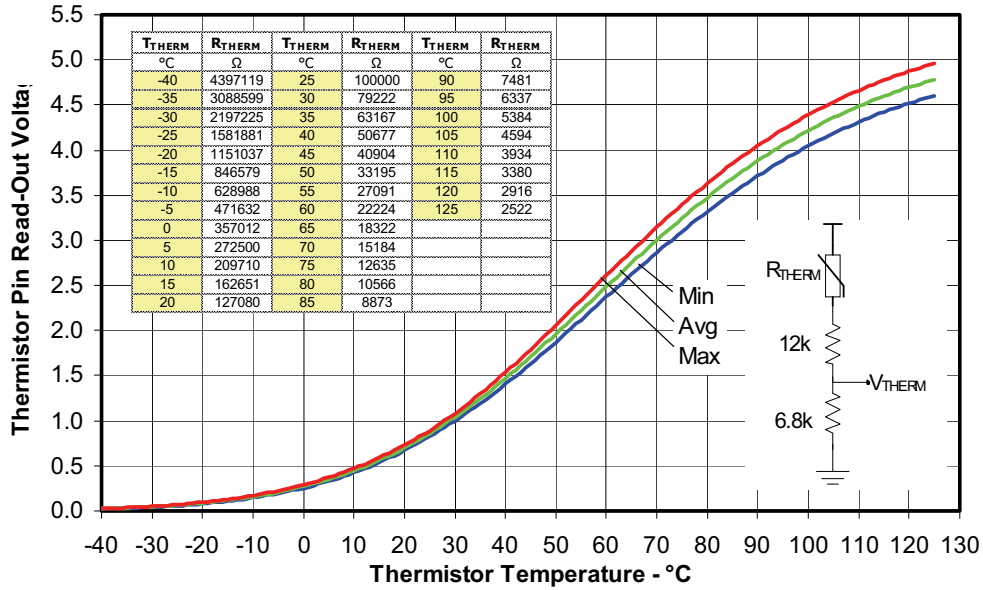

Figure 9. Thermistor Readout vs. Temperature (6.8kohm, 1% pull down resistor) and Nominal Thermistor Resistance values vs. Temperature Table.
3. Value of the boot-strap capacitors depends upon the switching frequency. Their selection should be made based on IR design tip DN 98-2a, application note AN-1044 or Figure 9. Bootstrap capacitor value must be selected to limit the power dissipation of the internal resistor in series with the V_{CC}. (see maximum ratings Table on page 3).